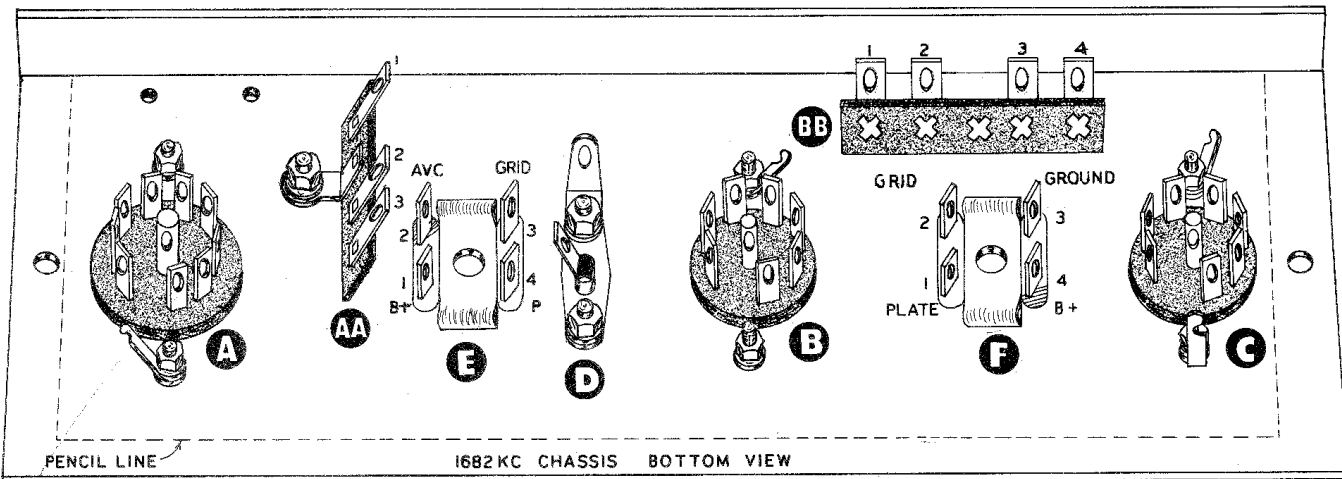

Figure 1
- () Select the 1682 KC chassis by comparison with Figure 1 and temporarily mount it with #6 sheet metal screws on the main chassis frame at the position shown on top plate drawing on Page 4. Now from the underside draw pencil lines around the edges of the main chassis. The lines on the 1682 KC chassis will now denote the clearance that must be maintained. In other words, no wires or components can lay over these lines or they will be pinched when the chassis is remounted. In the wiring instructions, some capacitors will overlap the lines; these will be bent out of the way later.
- () Remove the 1682 KC chassis from the main chassis. NOTE: Refer to Figure 1 while completing the following steps.
- () Clip off the ground terminal and 1/8" of the center terminal of a phono connector, (see Figure 1) and mount it at hole D using 6-32 x 1/4" screws, nuts and one #6 lockwasher. Include a large #6 solder lug on the rear screw; no lockwasher is necessary with this type of solder lug.
- () Bend the center terminal toward the 9 pin socket (A).
- () Mount a 3 lug terminal strip AA (see Figure 1 for type and position) adjacent to the 9 pin socket, using 6-32 x 1/4" screw, through the chassis from the top, through a #6 lockwasher and the terminal strip mounting foot, through another #6 lockwasher and nut. NOTE: This system of mounting will apply to all terminal strips hereafter.
- () Mount a 4 lug terminal strip BB between the two 7 pin sockets and behind hole F. See Figure 1 for type of terminal strip and mounting position. NOTE: There are two small IF transformers stamped 52-16 and 52-17. Transformer 52-16 is mounted at hole E and 52-17 at hole F. It is important that these not be interchanged or it will be impossible to align the IF strip.